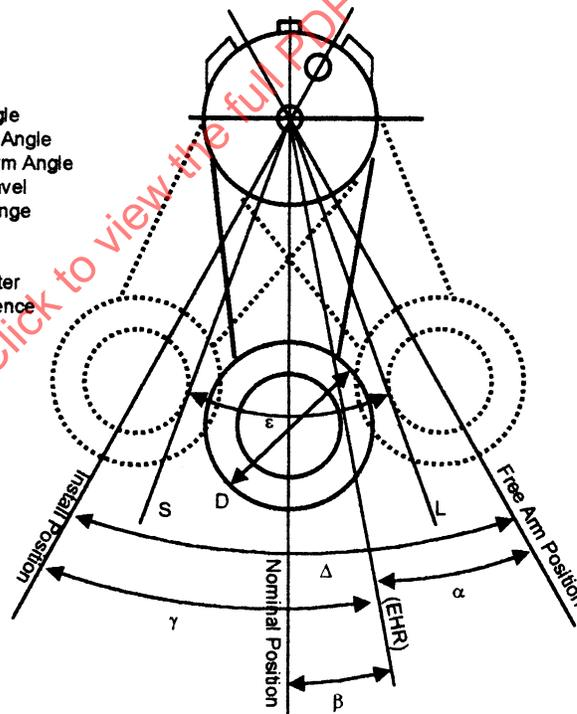

FIGURE 5—TENSIONER CHARACTERISTICS
- 4.1.1 **TENSIONER NOMINAL ARM ANGLE**—The tensioner arm angle which corresponds to the installed nominal length belt. (See β , Figure 5.)
- 4.1.2 **TENSIONER FREE ARM ANGLE**—The tensioner arm angle which corresponds to the free state of the tensioner, without the belt installed. (See α , Figure 5.)
- 4.1.3 TENSIONER INSTALLATION ARM ANGLE—The tensioner arm angle which corresponds to the stop feature of the tensioner arm to allow for belt installation. (See λ , Figure 5.)
- 4.2 **Tensioner Arm Length**—The distance between tensioner pivot location and tensioner pulley center. (See L, Figure 5.)
- 4.3 **Tensioner Pulley Diameter**—Diameter of the pulley attached to the tensioner arm as defined by SAE standard for groove side pulleys. SAE standard for backside pulleys is TBD. (See D, Figure 5.)
- 4.4 **Tensioner Operation Range**—The difference between the tensioner minimum new belt arm angle and the tensioner maximum arm angle. (See ϵ , Figure 5.)